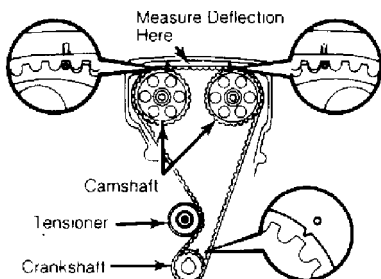

Fig. 5: 4A-GE Timing Mark Alignment
2) If reusing old timing belt, align marks made during removal. If installing new belt, align camshaft and crankshaft sprocket timing marks. See Fig. 5.
4) Measure belt deflection between both camshaft sprockets. See Fig. 5. Deflection should be 4.4 lbs. at .16" (2.0 kg at 4.1 mm). If deflection is incorrect, readjust with idler pulley (tensioner).